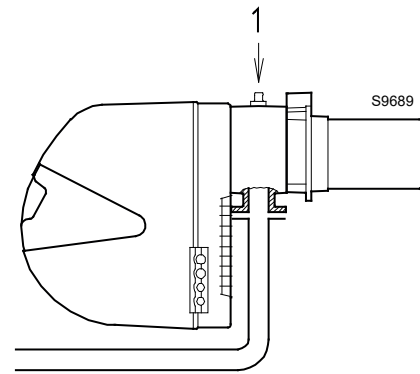

Fig. 20
Gas pressure measured at test point 1)(Fig. 20), with:
Pressure loss at gas butterfly valve 2)(Fig. 20) with maximum opening: 90°.
Train pressure drop 3)(Fig. 20) including: adjustment valve VR, safety valve VS (both fully open), pressure adjuster R, filter F.
- subtract the combustion chamber pressure from the gas pressure measured at test point 1)(Fig. 20).
To calculate the required gas pressure at test point 1)(Fig. 20), set the maximum modulating output required from the burner operation:
- read, on the right (column 1), the pressure at the test point 1)(Fig. 20).
pressure required at test point 1)(Fig. 20).